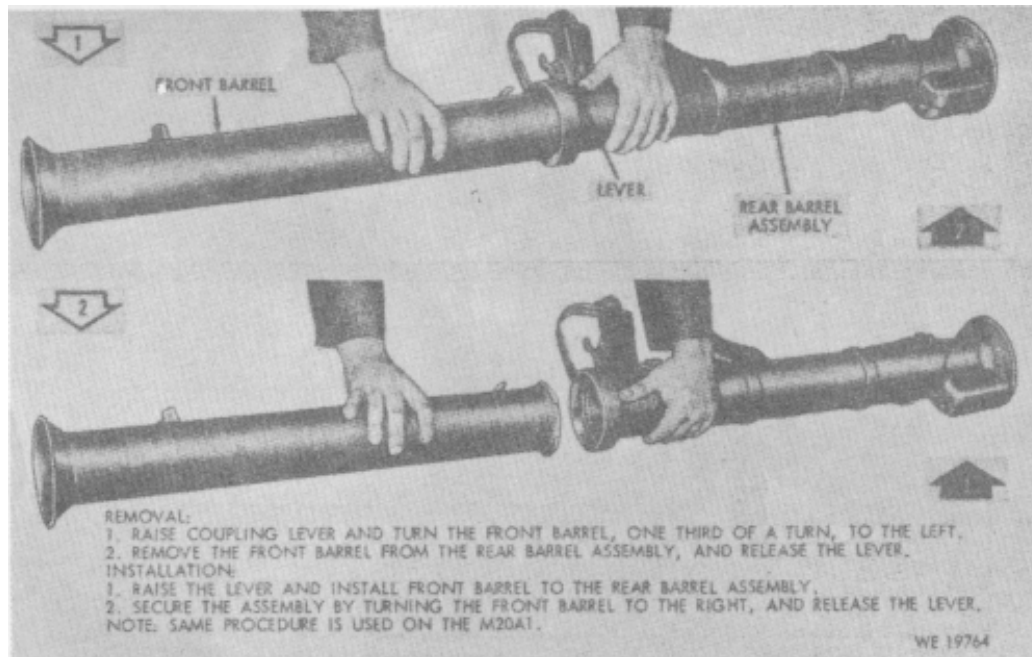

Figure 2-4. Removal and/or installation of front barrel.
- b. Install the barrels (fig. 2-4).
Refer to figures 2-4 and 1-3.